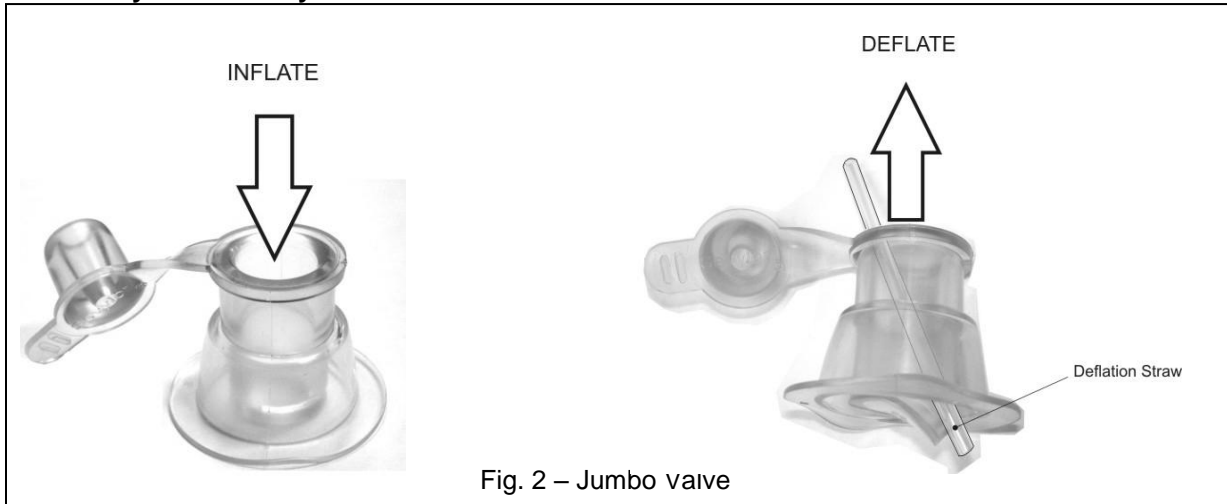

Fig. 2 – Jumbo valve
3) Familiarize yourself with the valves on your towable. This towable features 2 types of valves: Boston Valve on the floor chamber (Figure 1) and a Jumbo Push-in valve on the upper structure (Figure 2).